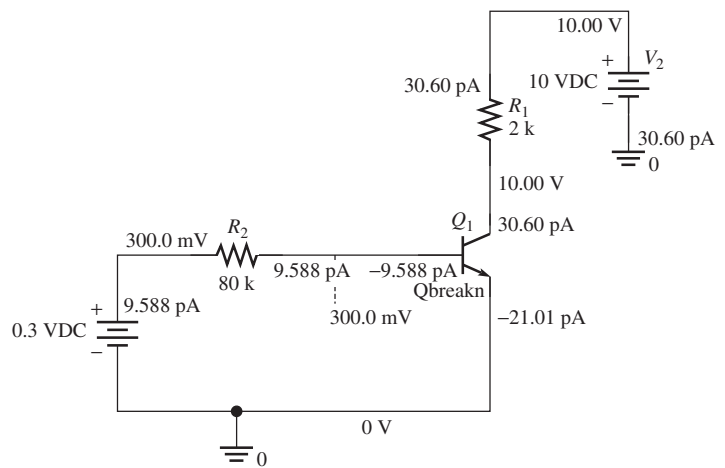

FIGURE 8.98 PSpice schematic solution for Example 8.33(a).
5. Run the bias point analysis by varying the voltage sources (see Figure 2.71). The results are shown in Figures 8.98 to 8.100.